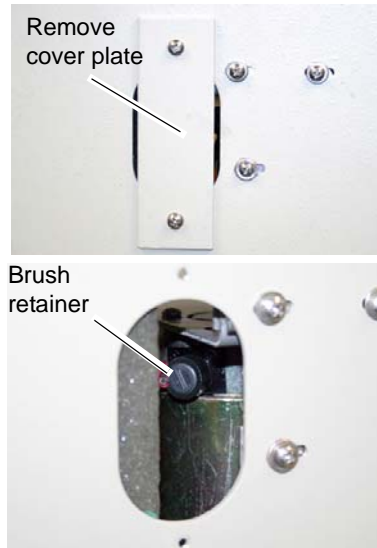

Figure 14: Accessing the bottom motor brush
2. Remove the two screws holding the small cover plate in place (refer to Figure 14).